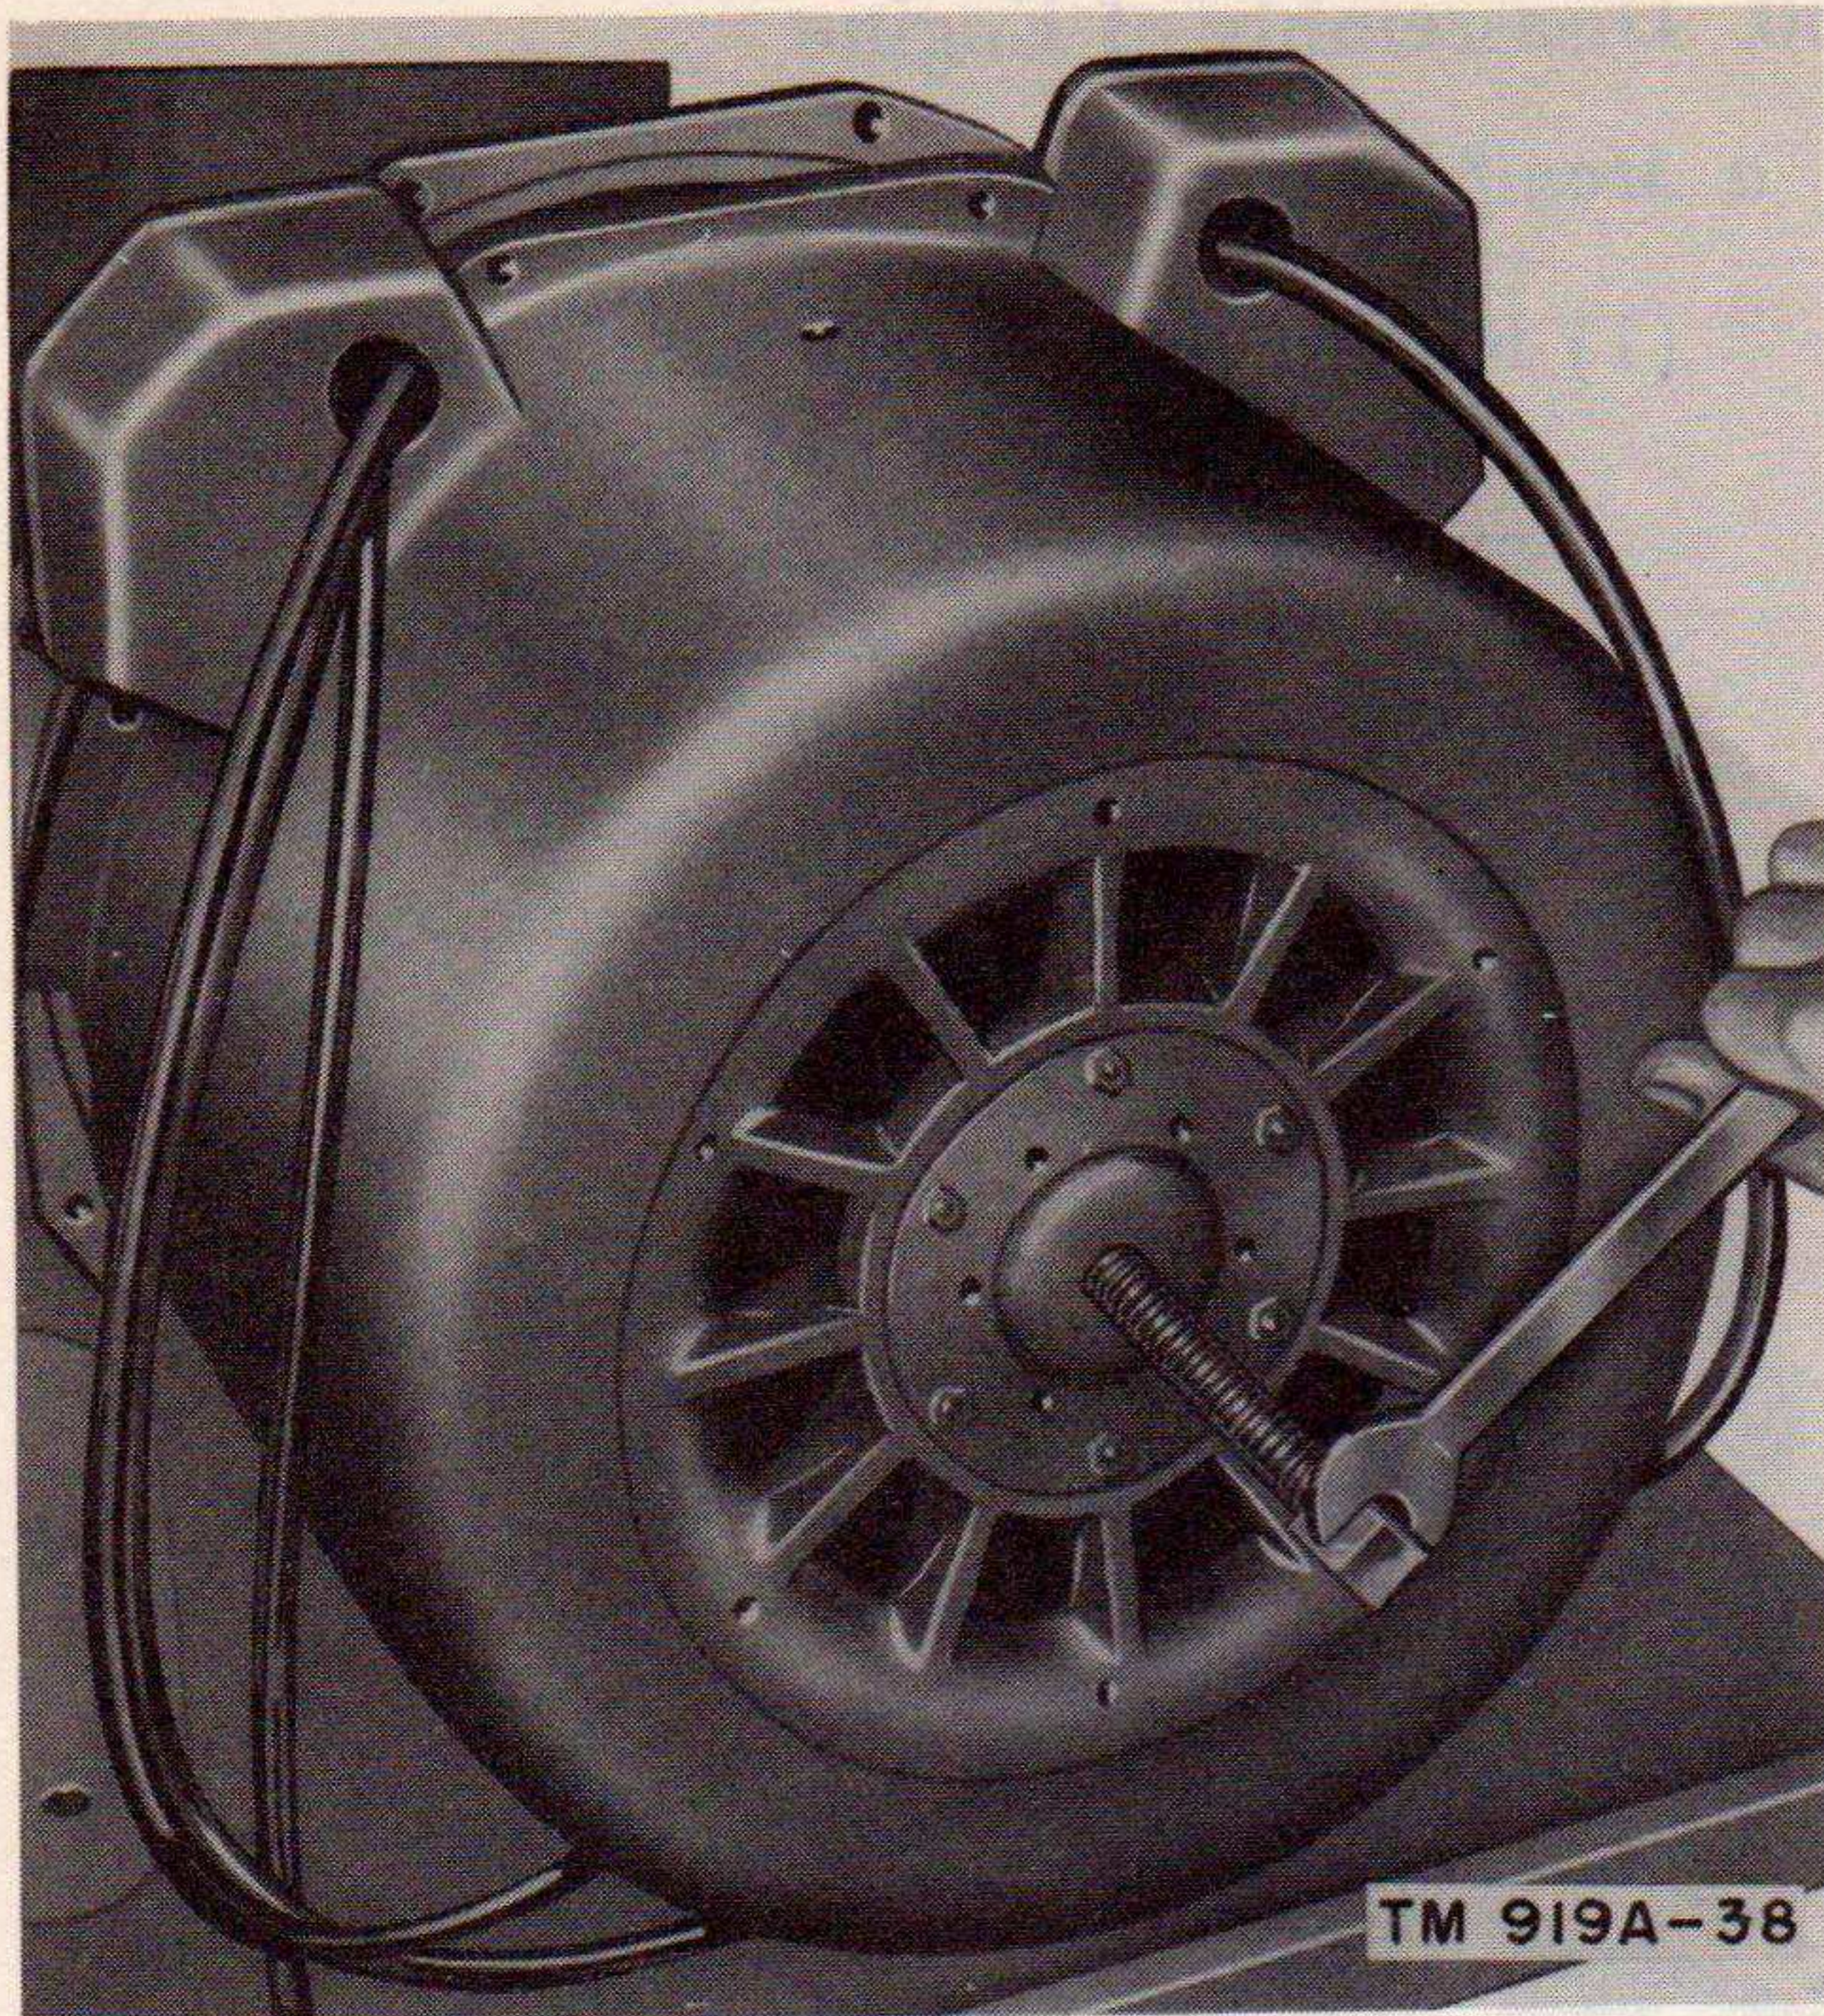

Figure 38. Removing stator housing.
- (4) Remove the guard assembly (8) from the housing.
- (5) Remove the six bolts from the inner row on the bearing cover plate (11). Screw the puller bolt (furnished with the unit) into the tapped hole in the center of the bearing cover plate. Turn the bolt until the housing is about halfway off the rotor as shown in figure 38. Install the lifting eye (furnished with the unit) in the top of the housing. Hook a chain hoist in the lifting eye and carefully remove the housing.
- (6) Test the stator in the housing for grounds with a high potential tester set at 1,500 volts. Test from phase to phase and from phase to ground. With an ohmmeter, test the stator coils for continuity. Normal resistance should be .0245 ohm at 68°F.